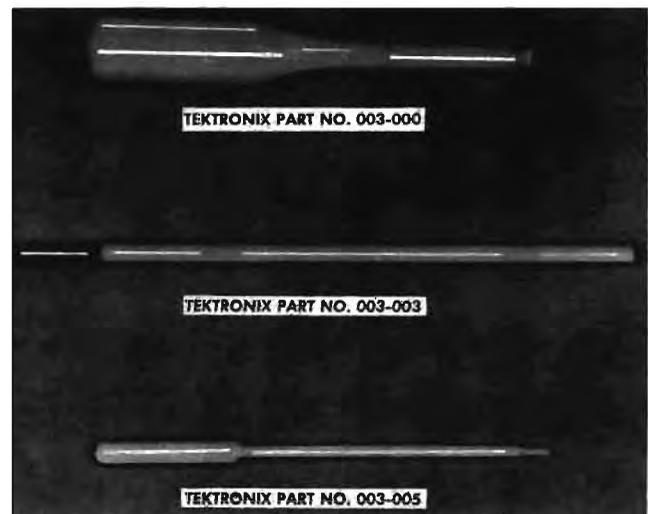

Fig. 6-1. Alignment tools required to recalibrate the Type 536 Oscilloscope.
- The square-wave generator required must have the following specifications: (1) output frequencies of 50 Kc, 100 Kc, and 400 Kc; (2) output amplitude of about 250 millivolts; and (3) risetime no more than 20 millimicroseconds (when properly terminated).
- Alignment tools (see Fig. 6-1).